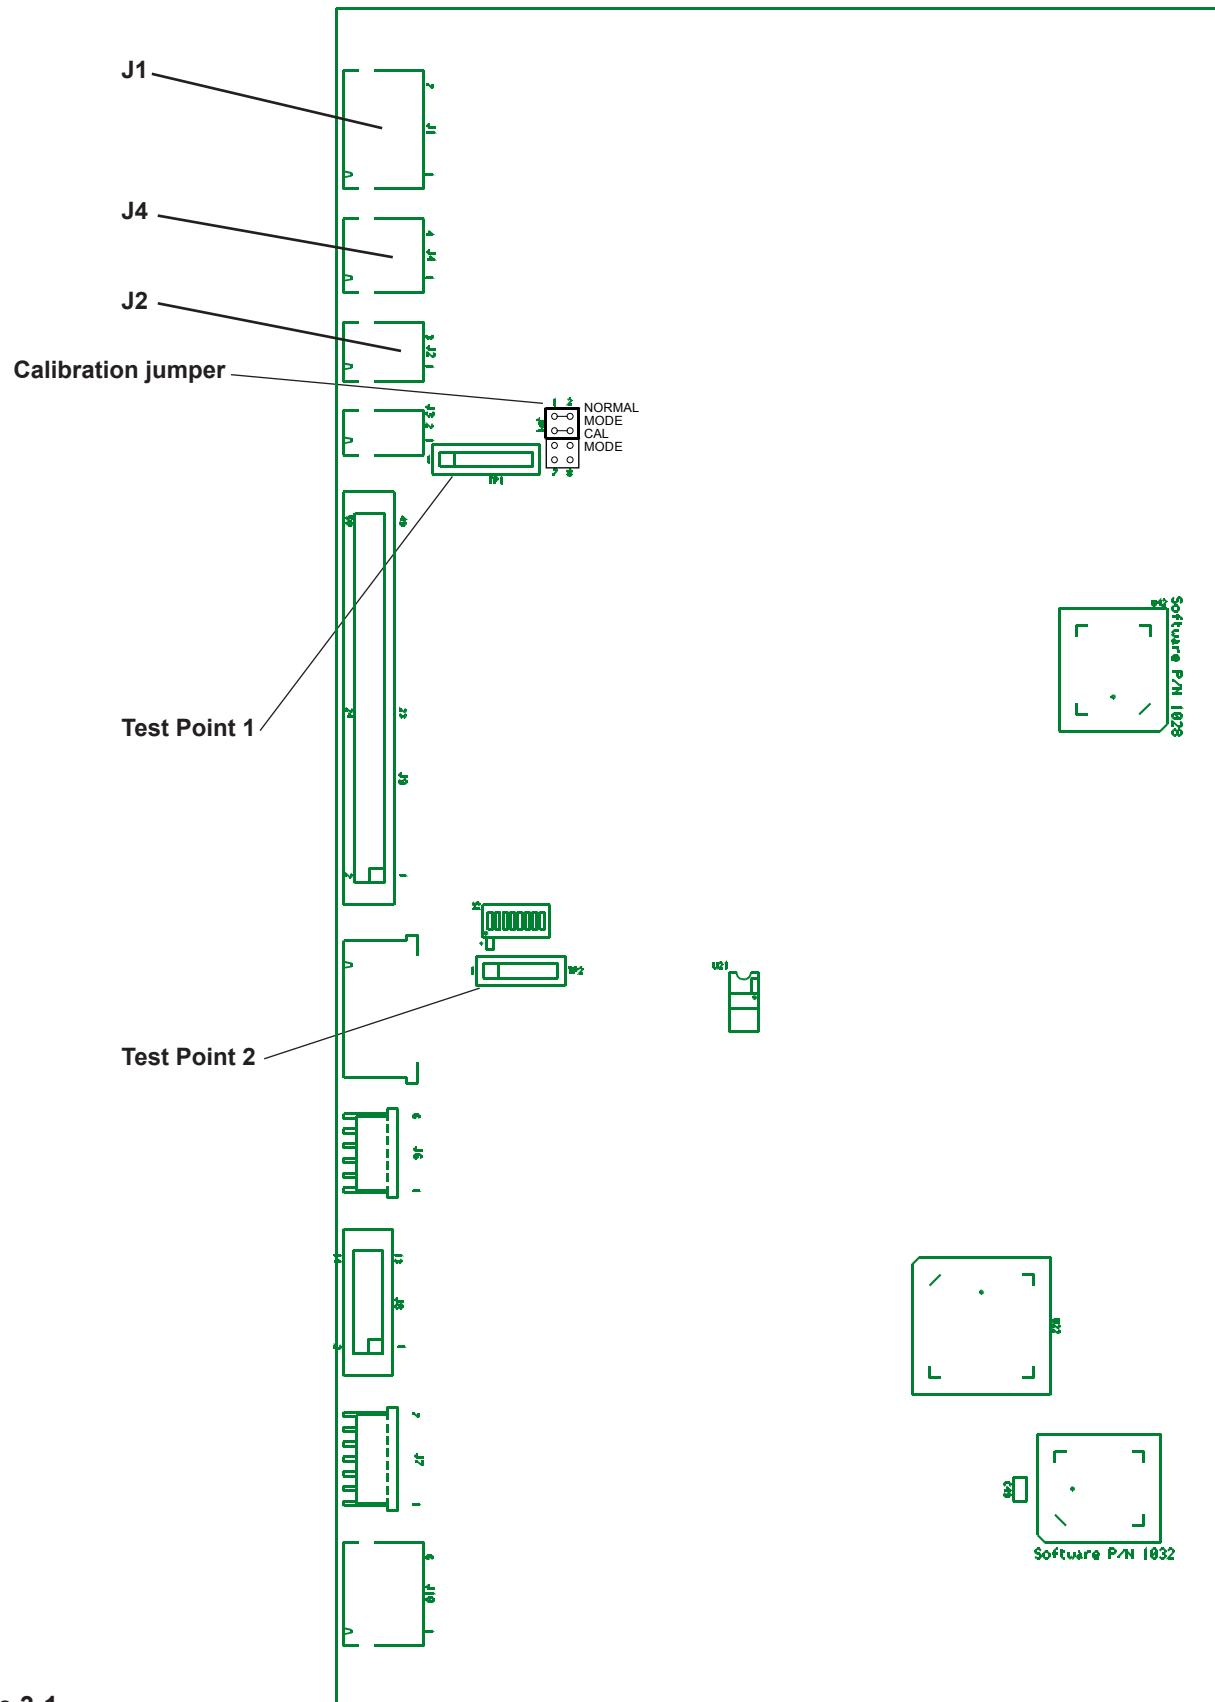

Figure 3-1
4. Move jumper JP1 to the CAL MODE position on the control board (see Figure 3-1 on next page). Be sure to orient the jumper correctly so pins 5-6 and 7-8 are shorted.